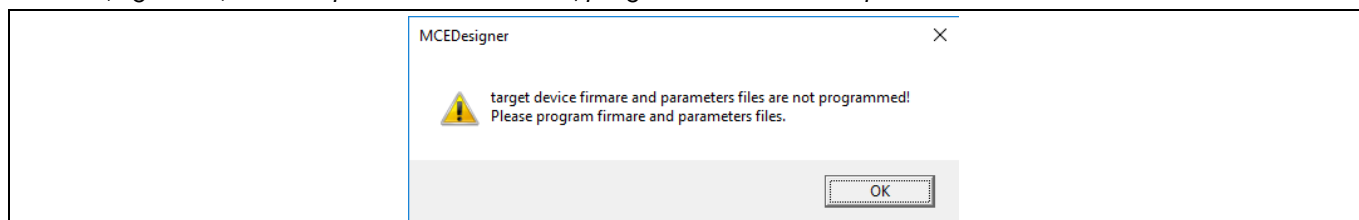

Figure 11 MCEDesigner warning message
8. *In case of blank IC: If the firmware has been erased from the IMC101T, a warning message will pop up saying “Target device firmware and parameters file are not programmed! Please program firmware and parameters file” (Figure 11). See step 9 on how to obtain/program firmware and parameters.*